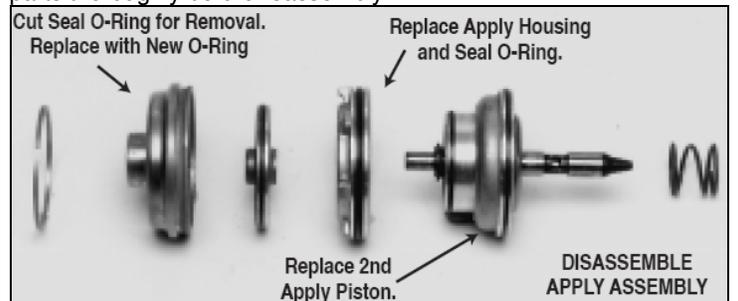

Figure 9
Step 18 Disassemble the servo assembly (See Figure 9). Clean all parts thoroughly before reassembly.
Step 19 Discard O.E.M. parts and replace with TCI® parts supplied with kit (See Figure 9 for detail). Assemble and reinstall into transmission. **NOTE:** make sure assembly is totally correct before reinstalling in case. Once the servo housing is in place, the servo housing seal O-ring will have to be cut for removal of assembly.